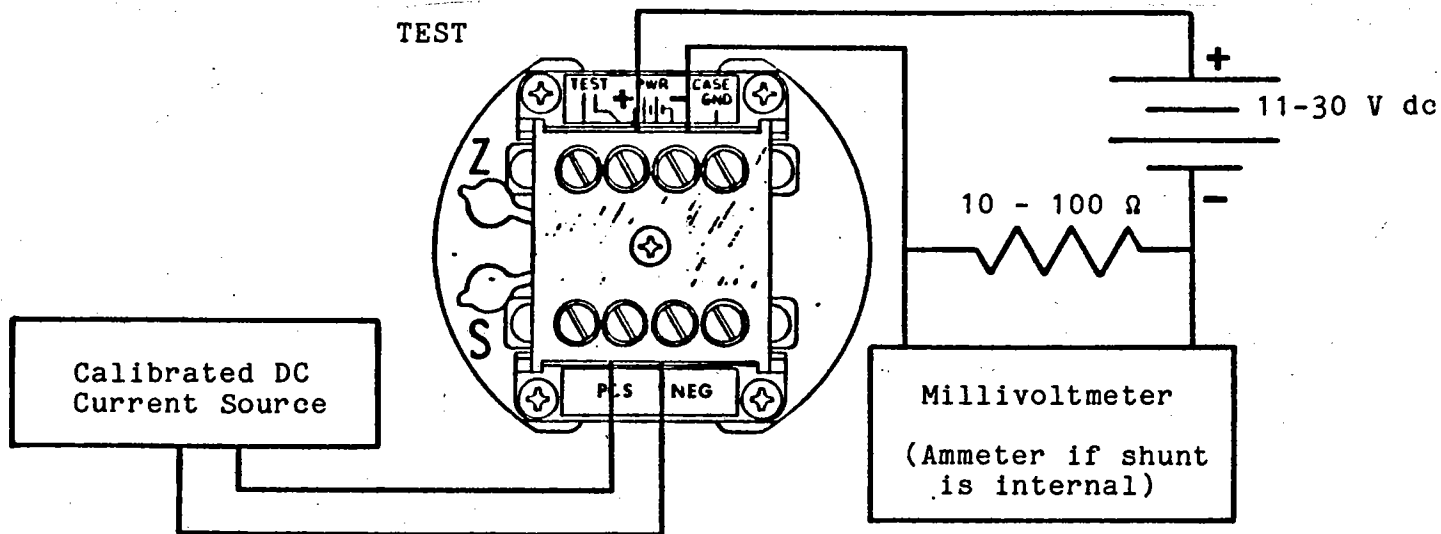

Figure 5-1 Calibration Using Precision Current Source
6. Refer to Figure 5-1 and connect the transmitter to the power supply, milliamper source, current shunt, and millivoltmeter. Greater calibration stability can be obtained if the electronic assembly is installed in the case.